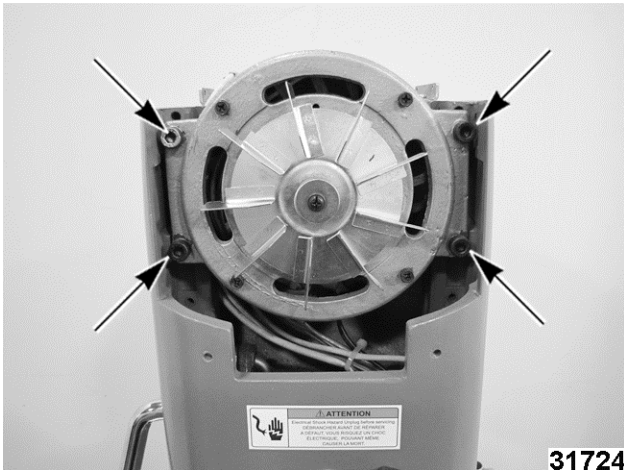

Fig. 48
14. Remove motor mounting screws (1, Fig. 48).